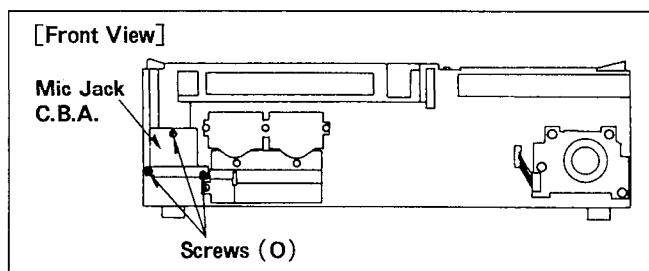

Figure D20
1. Unscrew the 3 screws (O) on the MIC Jack C.B.A. (Figure D20)